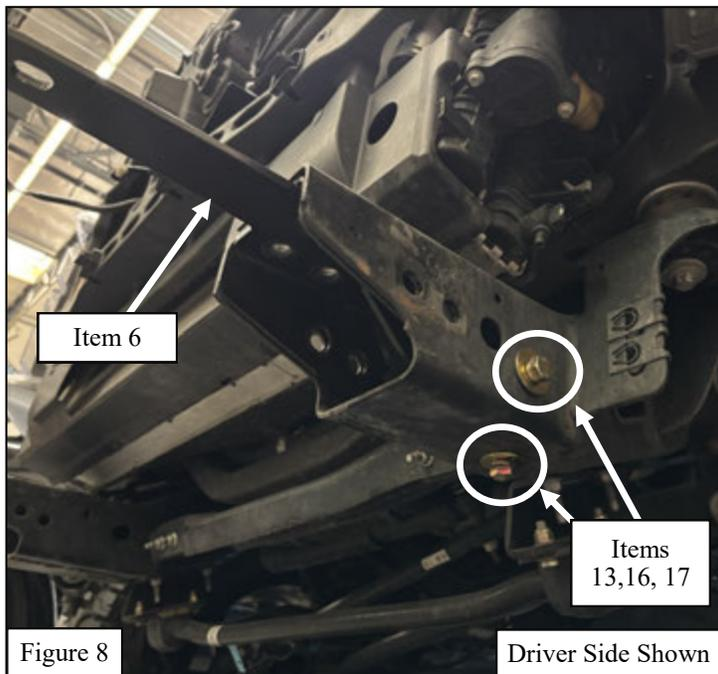

Figure 8
13. Loosely install Driver Bracket C (**item 6**) into the frame using the M12 hardware (**items 13, 16, and 17**). See **Figure 8**.